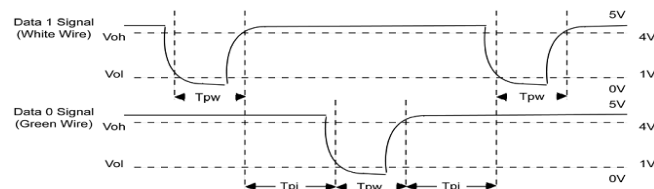

Figure 1 Sequence Diagram
1. On the **Main Menu** interface, press the [▼] key on the **Remote Control** to move the cursor on the **Keyboard** submenu, and then press [OK] key to enter the **Keyboard (Settings)** interface, shown as **Figure 1**.
The number of enrolled users, will displayed on the **[Records]** interface; the total face capacity and used capacity as well as the total record capacity and used capacity are graphically displayed respectively, shown as **Figure 1**.
2. Click the icon **ZKiVision** on the mobile device to start the video player. **Figure 1** shows the initial interface of the software.
Figure 1 is a sequence diagram in which the card reader sends digital signals in bit format to the access controller. In this sequence diagram, Wiegand follows the SIA's access control standard protocol for the 26-bit Wiegand card reader (one pulse time ranges between 20us and 100us, and the pulse jump time ranges between 200us and 20ms). Data1 and Data0 are high level (larger than V_{oh}) signals till the card reader prepares to send a data stream. The asynchronous low-level pulse (smaller than V_{ol}) generated by the card reader is sent to the access control panel (The saw-tooth wave shown as Figure 1) through Data1 or Data0. Data1 and Data0 pulses will neither overlap nor be generated synchronously. Table 1 lists the maximum and minimum pulse width (a consecutive pulse) and pulse jump time (time between pulses) allowed by the F series fingerprint access control terminal.